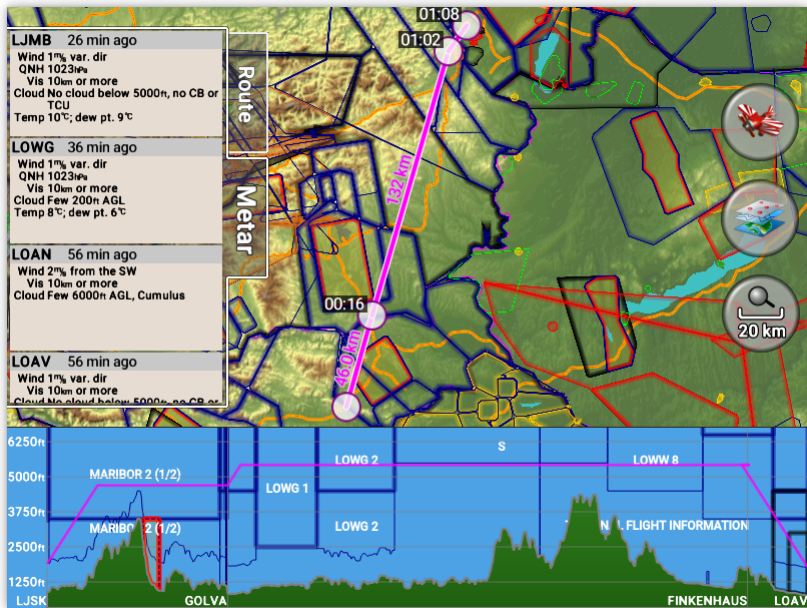

Figure 35: Example of METAR information along the route.
- A touch on the **Metar** tab will collect current METAR information from airfields close to the route and display this in a list form. Either an Internet access or an active FIS-B link connection is required for this command. Figure 35 shows an example.